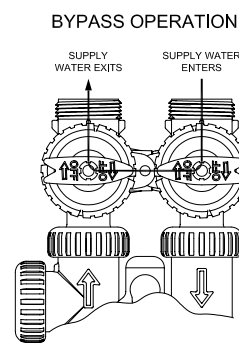

figure 2
2. Bypass Position: The inlet and outlet handles point to the center of the bypass, the control valve is isolated from the water pressure contained in the plumbing system. Untreated water is supplied to the plumbing system. (see figure 2)